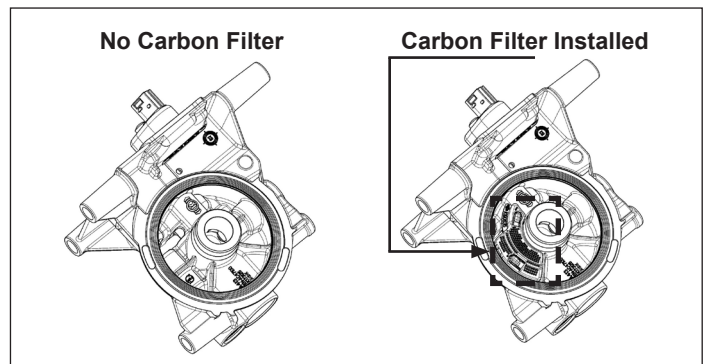

Figure 2 – Carbon Filter
4. Once accessible, remove the carbon filter from the air dryer body and dispose. See Figure 2.